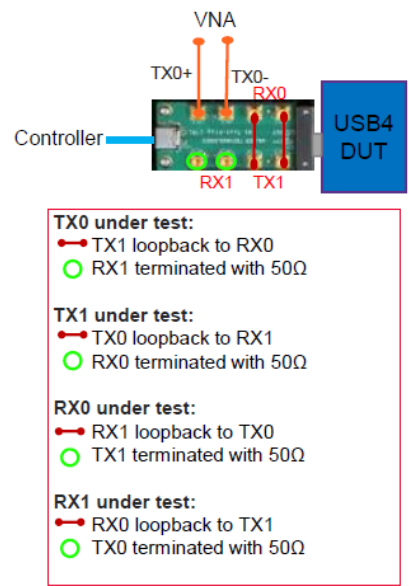

Figure 214 SMP test fixture - Tx/Rx lane switching
- 8 In case of SMP test fixture, Tx/Rx lane under test can be switched as shown in Figure 214.